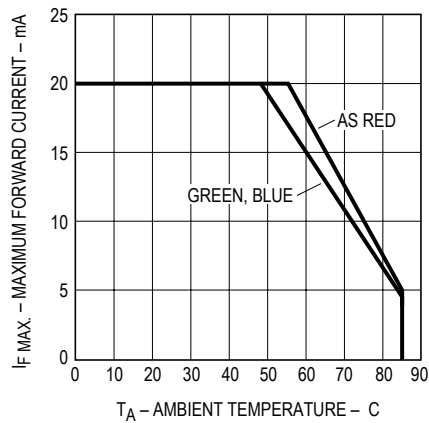

Figure 4: Maximum forward current vs. ambient temperature (1 chip lit up).
3. Derate linearly as shown in Figure 4.